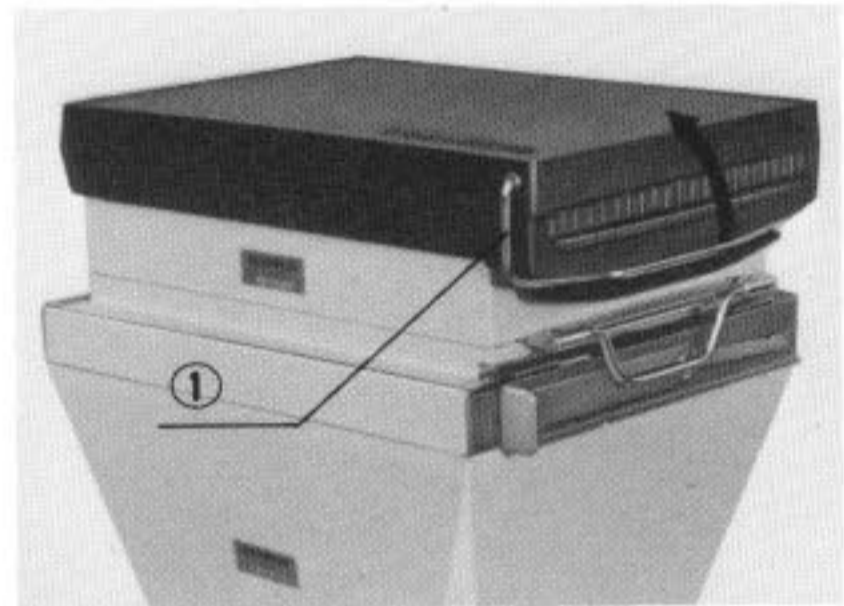

Fig. 28
- 2) Push the cover locking latch ① upwards with both hands. (Fig. 28)